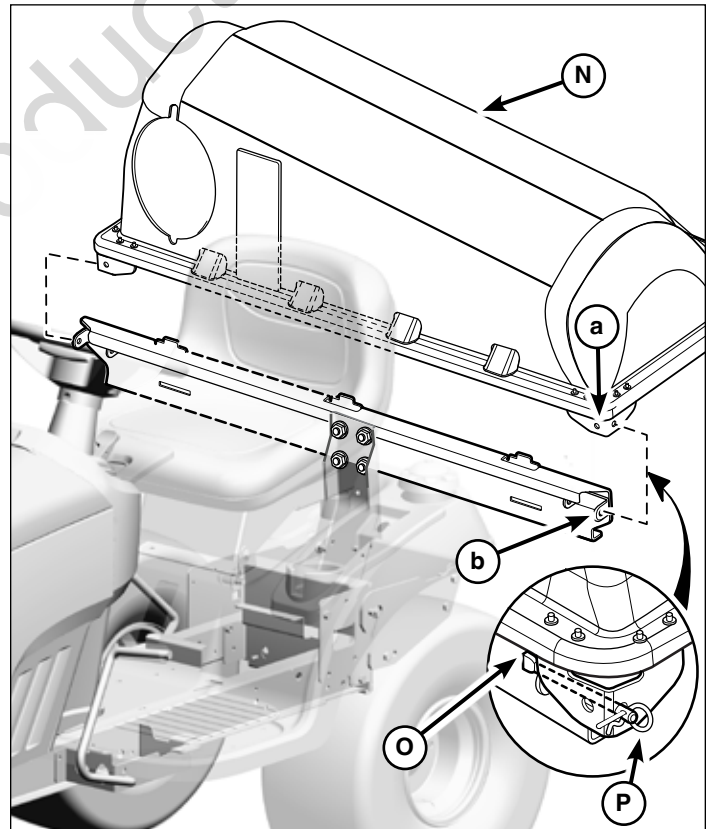

Figure 8
2. Put the corner brackets (a, Figure 8) on the cover assembly (N, Figure 8) onto the pivot hinges (b). Install the hinge pins (O) and hair pins (P).